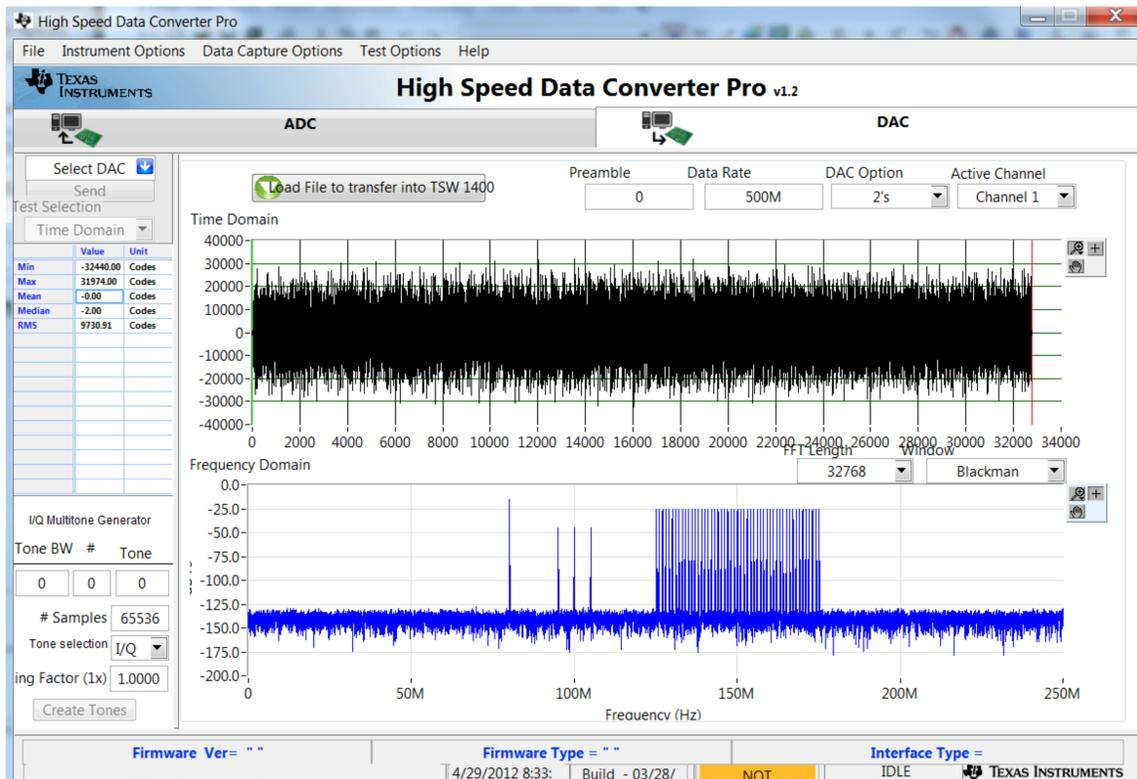

Figure 7. Three Tone Group Pattern Loaded Into High Speed Data Converter Pro
4. Enter the **Data Rate** (500 MHz) and DAC option (2's complement) as shown in Figure 7